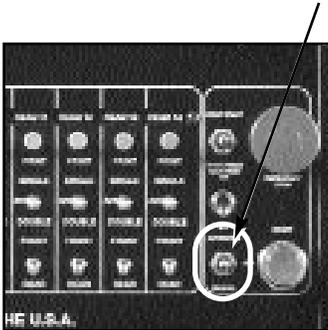

Fig. 7
- **Operation Mode Toggle Switch:** (*Manual/Automatic toggle switch*) (Figure 7)